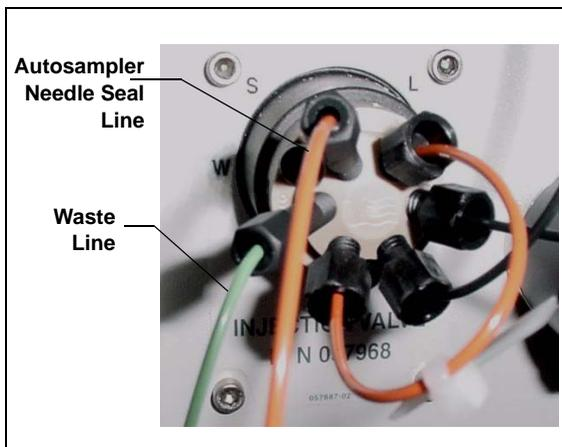
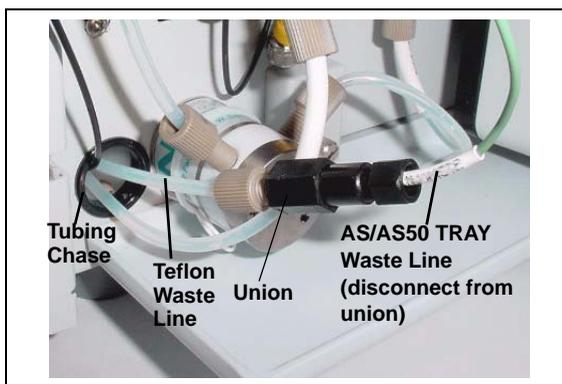

Figure 39. ICS-1000 Injection Valve
Figure 40. Injection Valve Waste Line Union
4. Connect the needle seal line from the autosampler to port **S (5)** on the injection valve (see Figure 39).
The green waste line that is connected to port **W (6)** on the injection valve (see Figure 39) is connected with a union to a Teflon waste line (see Figure 40) and routed through the tubing chase to the ICS-1000 rear panel.